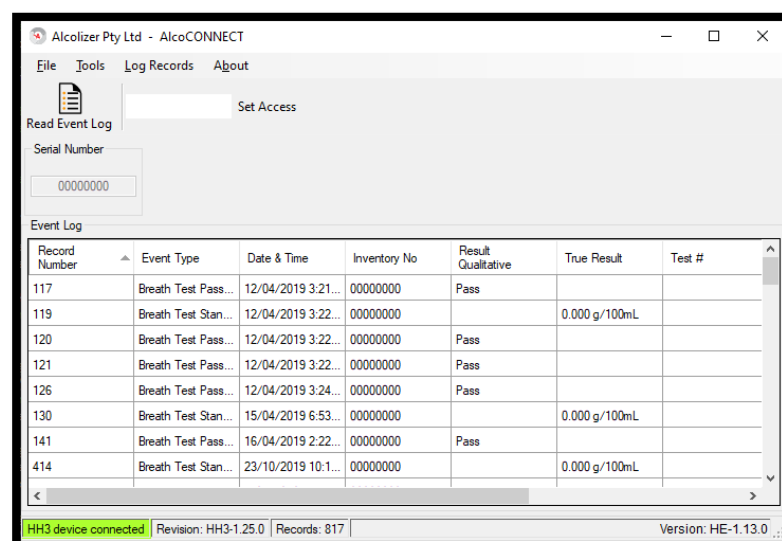

Figure 26 - Event log
- Click the Read Event Log icon and The Event Log will then be displayed (refer Figure 26).